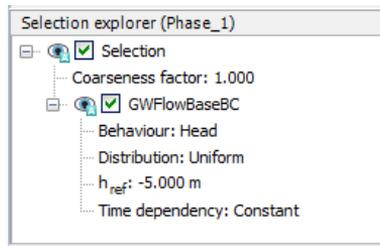

Figure 15.9 Groundwater flow boundary condition in the *Selection explorer*
- Set the *Behaviour* to *Head* and the h_{ref} to -5.0 m (Figure 15.9). This will simulate an 'empty' lock.